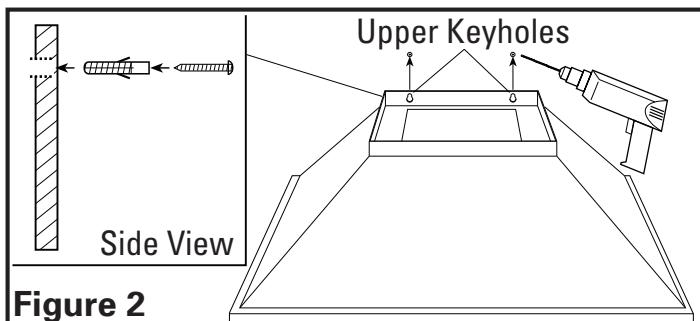

Figure 2
1. Refer to the mounting hole drawing provided with the unit. Locate and mark the upper keyhole positions on the wall. If installing onto drywall, drill holes into wall using a 3/16" drill bit. Install wall anchors into the drilled holes (one for each hole). Install (2) provided #6 x 1" screws, leaving a 1/8" gap between the screw head and the wall. If installing into other material (brick, cement, plaster, etc.) choose an appropriate fastener capable of supporting the weight of the hood. Line up the keyholes in the hood with the screws and position in place. Hang the hood over the keyhole anchors and verify that the hood is centered, plum and level (**Figure 2**).